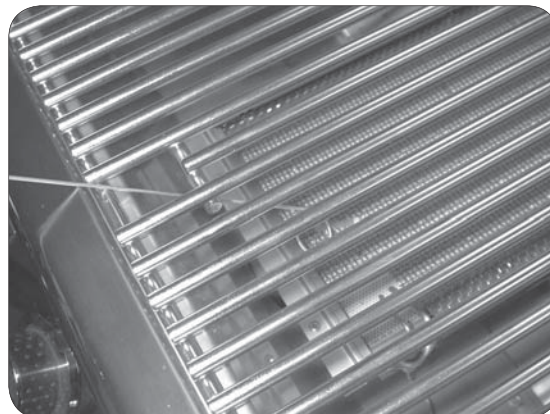

Fig. 11-2 - Manual lighting
2. Insert either a burning long-barrel butane lighter, a burning long-stem match, or a burning match held by a wire extension holder through the cooking grid opening to the top of the burner (Fig. 11-2).
4. If the burner does not light, **immediately depress the knob and turn the valve to OFF**. **WAIT FIVE (5) MINUTES** before repeating steps 2 through 4 of the **MANUAL LIGHTING** instructions.